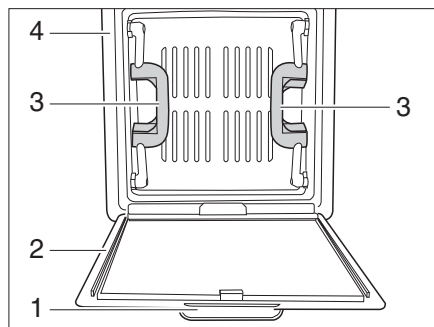

Fig. 21 Skylight with snap latch
- Pull down the insect screen (Fig. 21,2) with the handle (Fig. 21,1). The insect screen folds down.
- Push the skylight upwards using both handles (Fig. 21,3).
- Fold the insect screen upward and latch it in at the frame (Fig. 21,4).
- Pull the skylight downwards with force using both handles (Fig. 21,3).